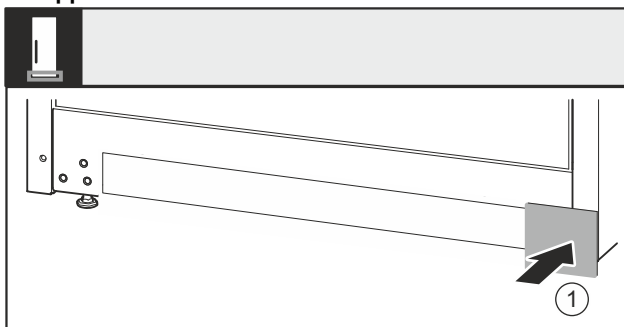

Fig. 39
- Re-attach the cover Fig. 39 (1) to the other side.